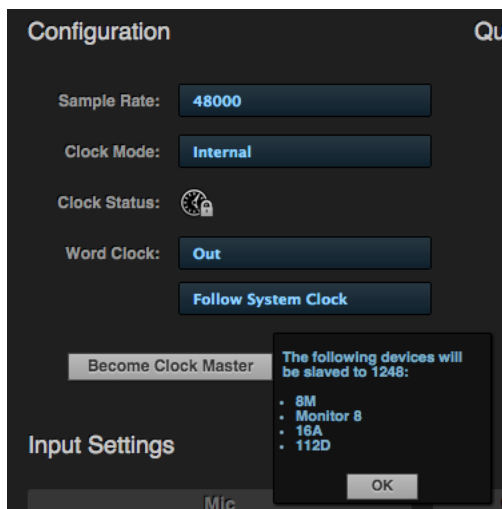

Figure 4-21: Choosing a clock master.
- 3 Click the *Become Clock Master* button (Figure 4-21).